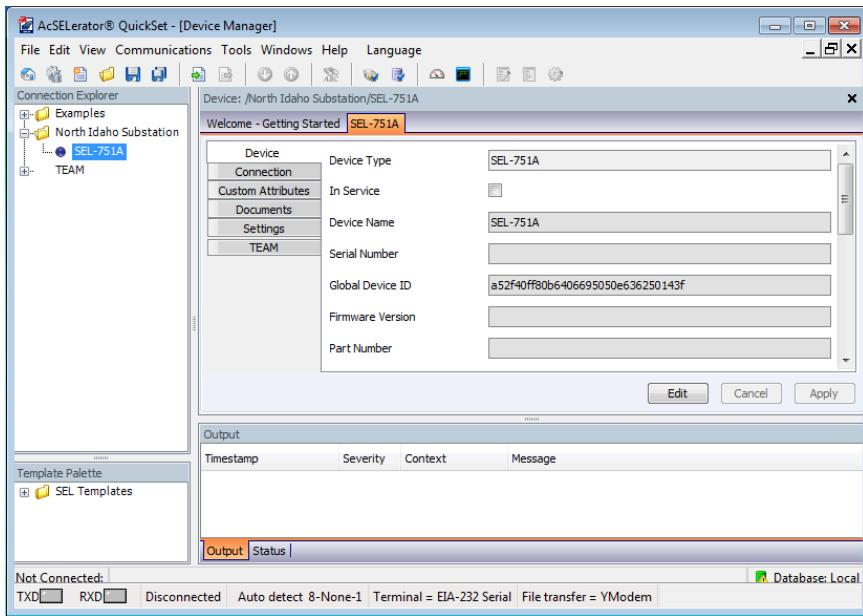

Figure 2.20 SEL-751A Device Tab Workspace
Step 7. Double-click the device node, SEL-751A, in the **Connection Explorer**. *Figure 2.20* shows the new device display window that QuickSet opens.